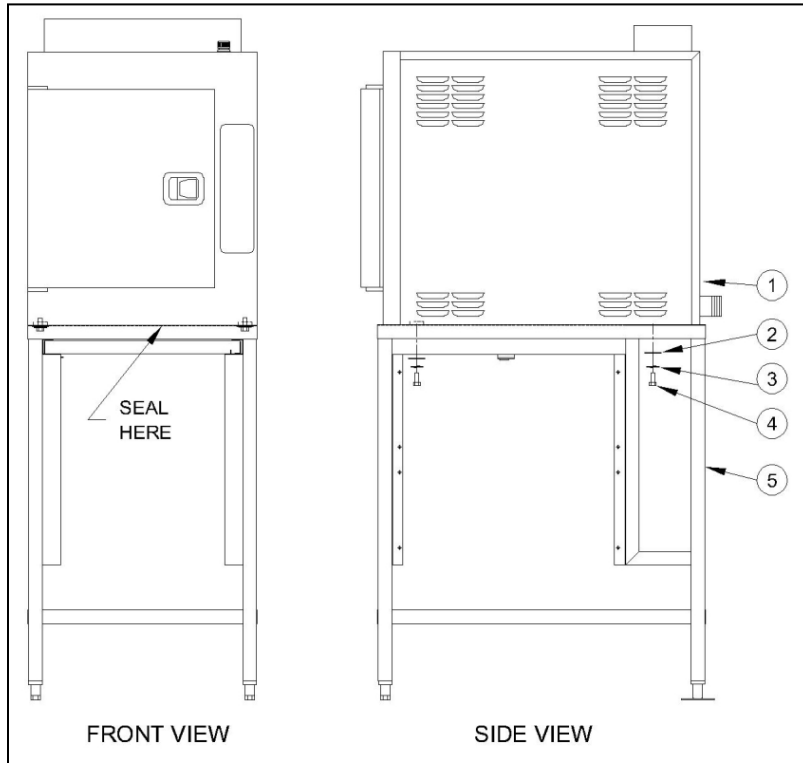

Figure 3-3 SteamCraft Ultra5 on UNISTAND34 Stand
4. Set steamer directly on stand as shown in Figure 3-3
7. Bolt steamer to stand with four (4) sets of bolts and washers provided as shown in Figure 3-3 (Items 2, 3 and 4)
- b. **If the static pressure is above 60 psi, a pressure regulator must be used and set at approximately 50 psi. Pressure above 60 psi can damage solenoid valves. See Figures 3-3 and 3-4.**